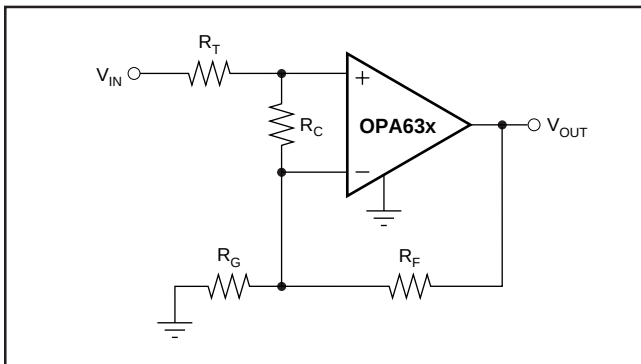

FIGURE 4. Compensated Non-Inverting Amplifier.
Figure 4 shows a non-inverting amplifier that reduces peaking at low gains. The resistor R_C compensates the OPA631 or OPA632 to have higher Noise Gain (NG), which reduces the AC response peaking (typically 5dB at $G = +1$ without R_C) without changing the DC gain. V_{IN} needs to be a low impedance source, such as an op amp. The resistor values are low to reduce noise. Using both R_T and R_F helps minimize the impact of parasitic impedances.
Since the OPA631 and OPA632 are voltage feedback op amps, a wide range of resistor values may be used for the feedback and gain setting resistors. The primary limits on these values are set by dynamic range (noise and distortion) and parasitic capacitance considerations. For a non-inverting unity gain follower application, the feedback connection should be made with a 25Ω resistor, not a direct short (see Figure 4). This will isolate the inverting input capacitance from the output pin and improve the frequency response flatness. Usually, for $G > 1$ application, the feedback resistor value should be between 200Ω and $1.5k\Omega$. Below 200Ω , the feedback network will present additional output loading which can degrade the harmonic distortion performance. Above $1.5k\Omega$, the typical parasitic capacitance (approximately $0.2pF$) across the feedback resistor may cause unintentional band-limiting in the amplifier response.
The criterion for setting this R_S resistor is a maximum bandwidth, flat frequency response at the load. For a gain of +2, the frequency response at the output pin is already slightly peaked without the capacitive load, requiring relatively high values of R_S to flatten the response at the load. Increasing the noise gain will also reduce the peaking (see Figure 4).
Resistors should be a very low reactance type. Surface-mount resistors work best and allow a tighter overall layout. Metal film or carbon composition axially-leaded resistors can also provide good high frequency performance. Again, keep their leads and PC board traces as short as possible. Never use wirewound type resistors in a high frequency application. Since the output pin and inverting input pin are the most sensitive to parasitic capacitance, always position the feedback and series output resistor, if any, as close as possible to the output pin. Other network components, such as non-inverting input termination resistors, should also be placed close to the package. Where double-side component mounting is allowed, place the feedback resistor directly under the package on the other side of the board between the output and inverting input pins. Even with a low parasitic capacitance shunting the external resistors, excessively high resistor values can create significant time constants that can degrade performance. Good axial metal film or surface-mount resistors have approximately 0.2pF in shunt with the resistor. For resistor values > 1.5kΩ, this parasitic capacitance can add a pole and/or zero below 500MHz that can effect circuit operation. Keep resistor values as low as possible consistent with load driving considerations. The 750Ω feedback used in the typical performance specifications is a good starting point for design. See Figure 4 for the unity gain follower application.